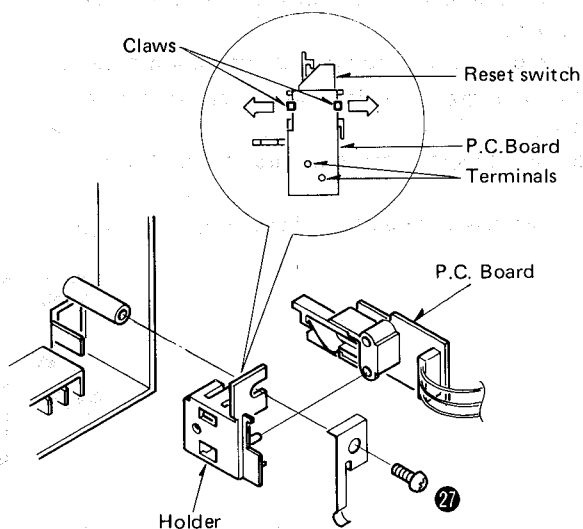

Fig. 10
2. Remove the switch holder setscrew (Fig. 10: 27).